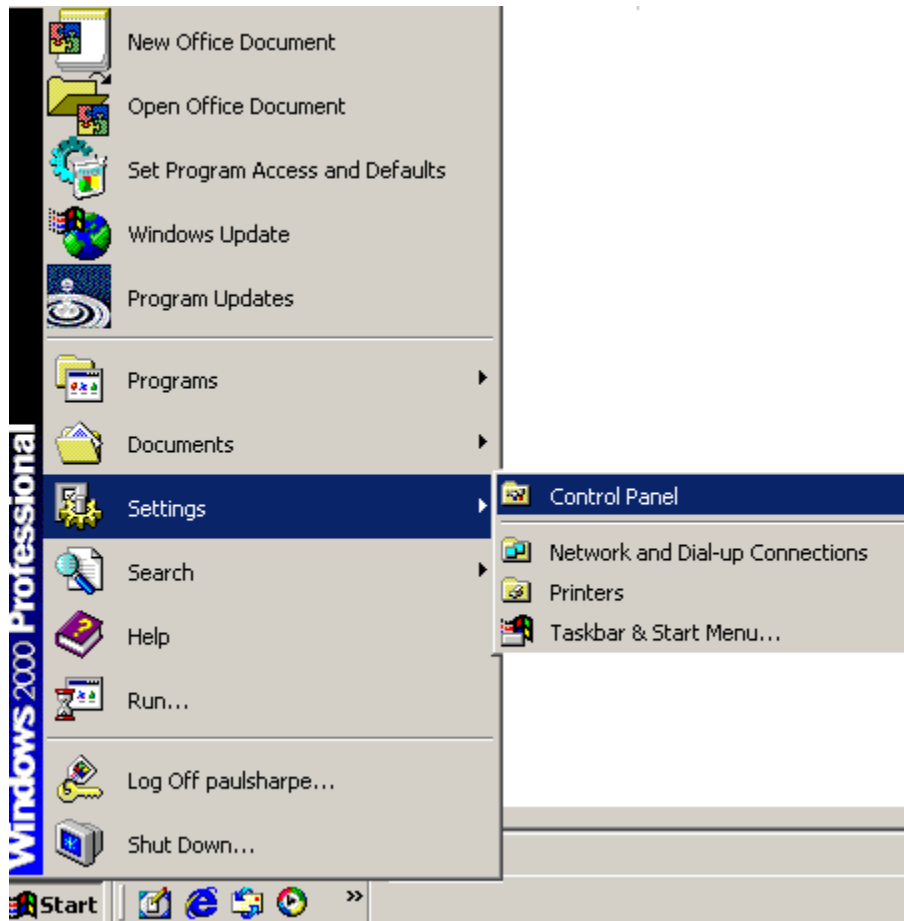

Figure 6-20: Access Windows Control Panel
Step 1: Open **Windows Control Panel** (**Figure 6-20**).